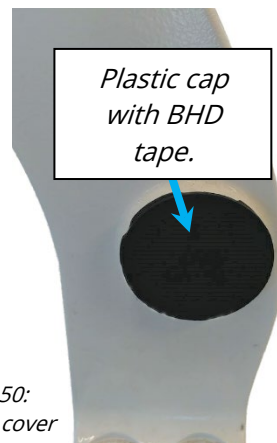

Figure 50:
- f. After trunnion shaft insertion into cylinder braces, **INSTALL** plastic caps with BHD tape (P/N 40413) over each trunnion shaft to minimize corrosion. (fig. 50)